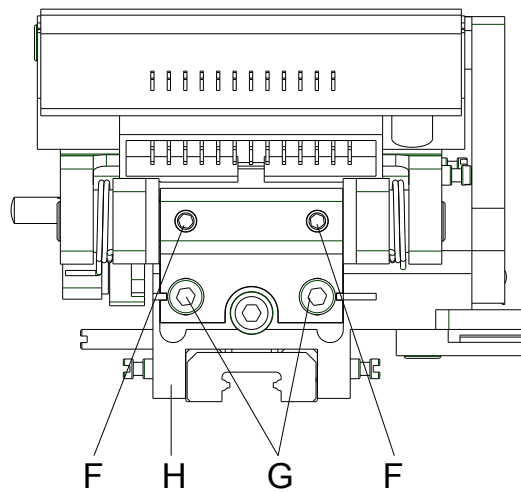

Figure 18
4. Remove the Allen head screws (G, Figure 18).
6. Start the necessary service work, e.g. replacing the springs (C) or the printhead fastener.
The component can be decomposed in more individual parts. Unscrew the pillars (F) and remove the printhead shaft (D). At installation take care of parallelism of the slots next to the screws (G) to the slots in the guiding carriage (H, Figure 18).